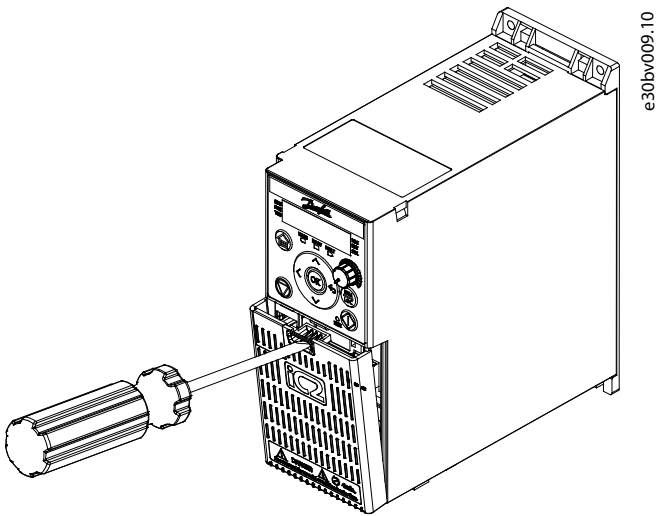

Figure 4: Removing Terminal Cover
- Remove the terminal cover with a screwdriver, see Figure 4.